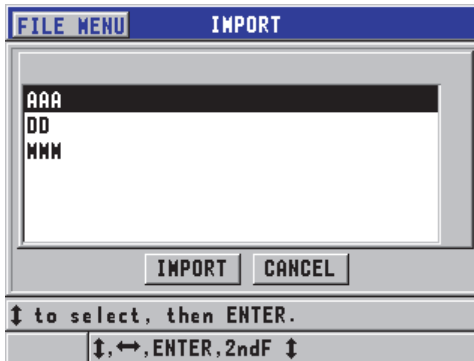

Figure 11-3 Example of the IMPORT screen
5. In the **IMPORT** screen (see Figure 11-3 on page 199):